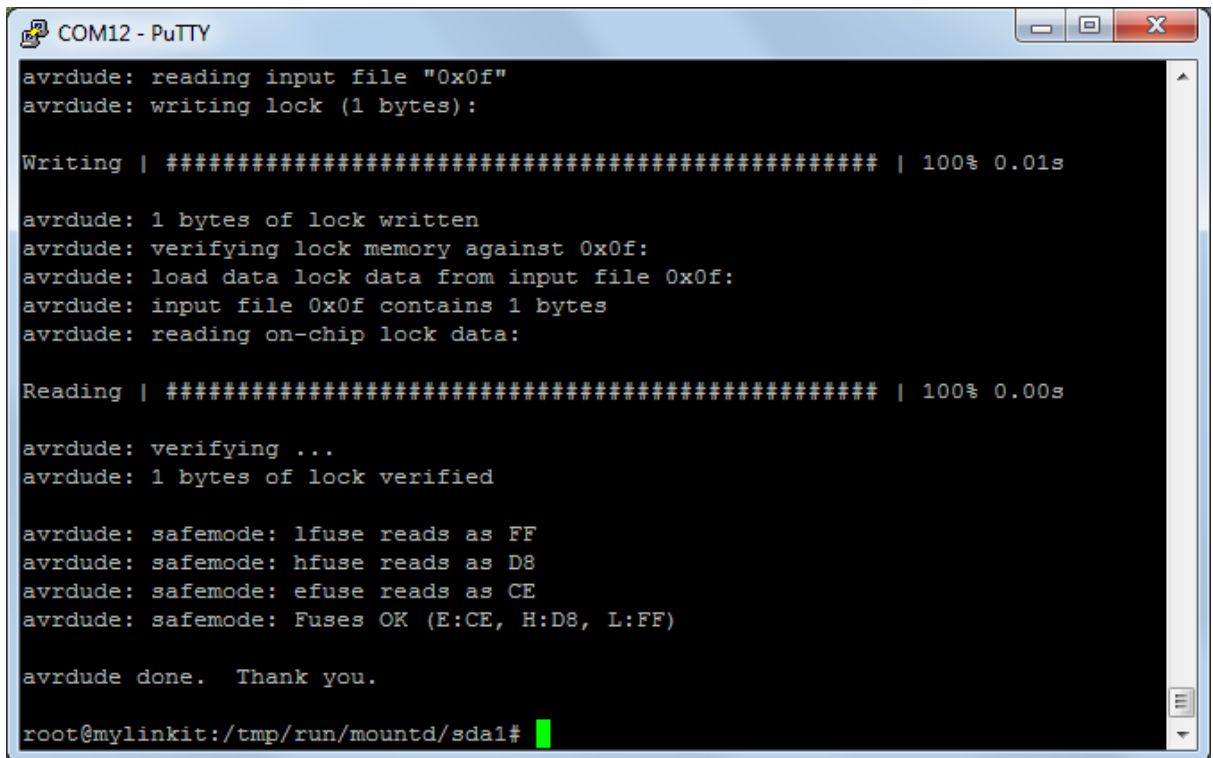

Figure 60 Programming bootloader using AVRDUDE
- 4) After the bootloader is programmed into the ATmega32U4, you should see a screen similar to Figure 60.